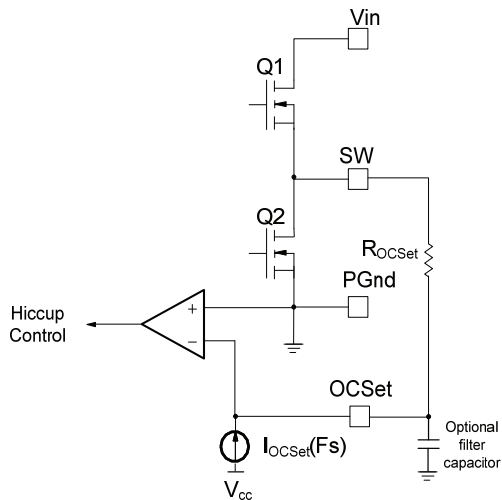

Fig. 7. Connection of over current sensing resistor
The over current protection is performed by sensing current through the RDS(on) of the sync FET. This method enhances the converter’s efficiency and reduces cost by eliminating a current sense resistor. As shown in figure 7, an external resistor (ROcSet) is connected between OCSet pin and the switch node (SW) which sets the current limit set point.